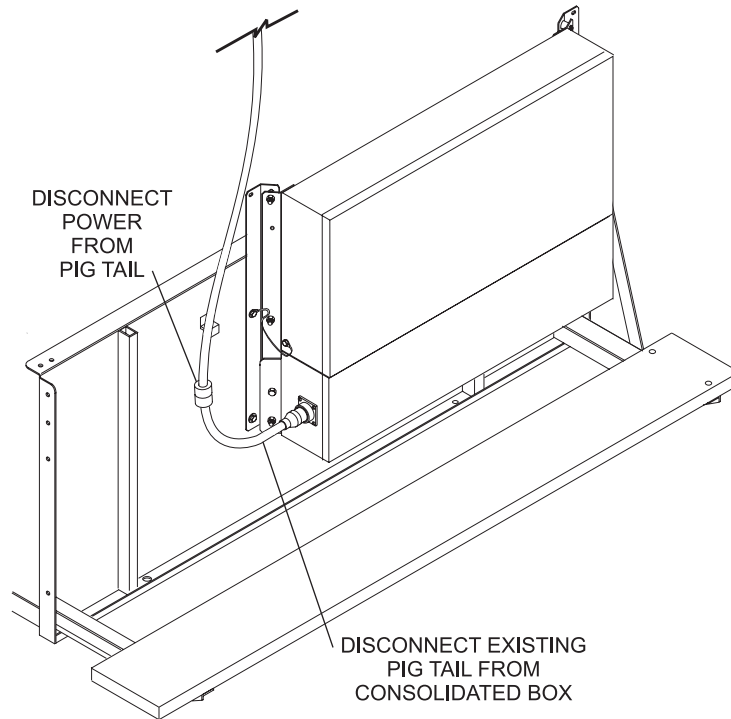

Figure 6
1. Remove the existing main power to the GS Consolidated Box. Refer to *Figure 6*.